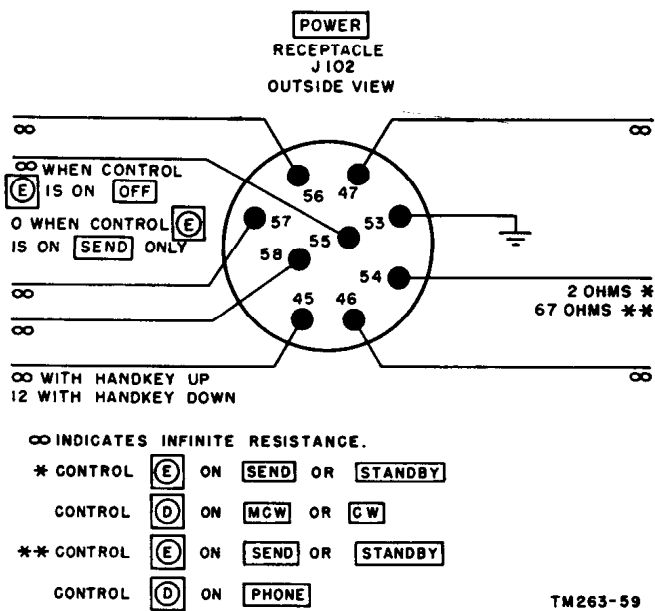

Figure 109. Transmitter POWER socket resistances to ground.
b. *Transmitter Power Supply Circuits* (figs. 90 and 91). Disconnect power cables, Cords CD-1086 and CD-119, from the transmitter and remove the key and microphone from their jacks. Check the resistances to ground of the contacts of the transmitter POWER socket (fig. 109). If the readings shown are not obtained, *do not* apply power to the radio set; trace the circuits to see where the trouble is located. Otherwise, damage may be done to the power